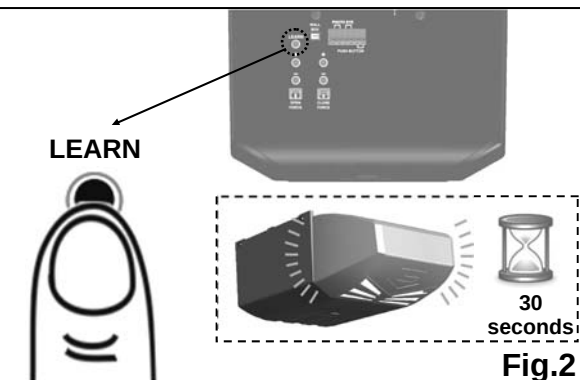

Fig.2
1. See Fig.2 to add a remote. Press the "LEARN" button on the rear control panel of the opener. The courtesy light will illuminate with an audible click*. The unit is now ready to learn a remote.